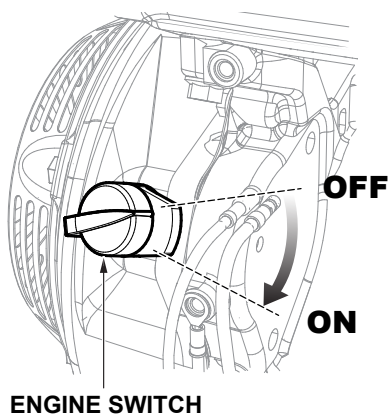

Figure 41. Engine ON/OFF Switch (ON)
2. Place the engine ON/OFF switch in the **ON** position (Figure 41).